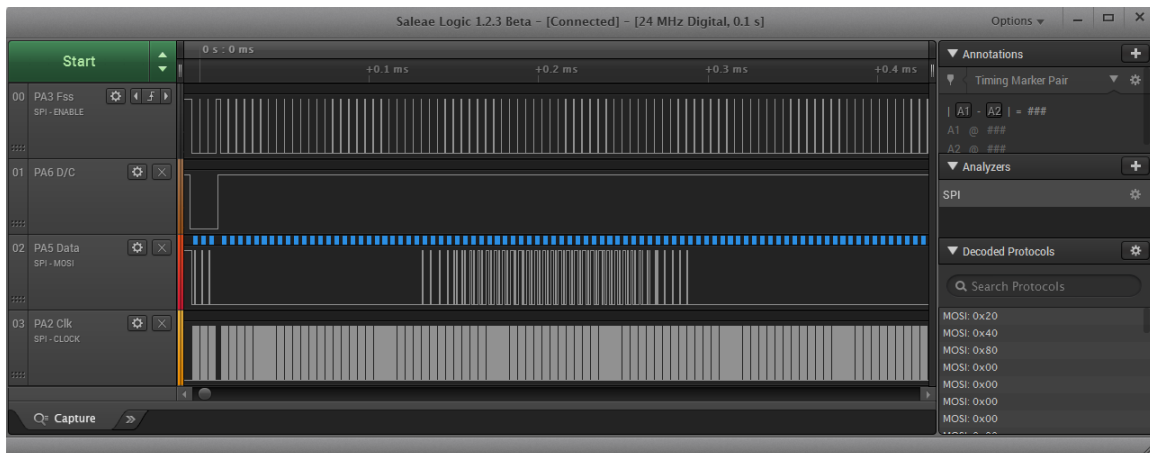
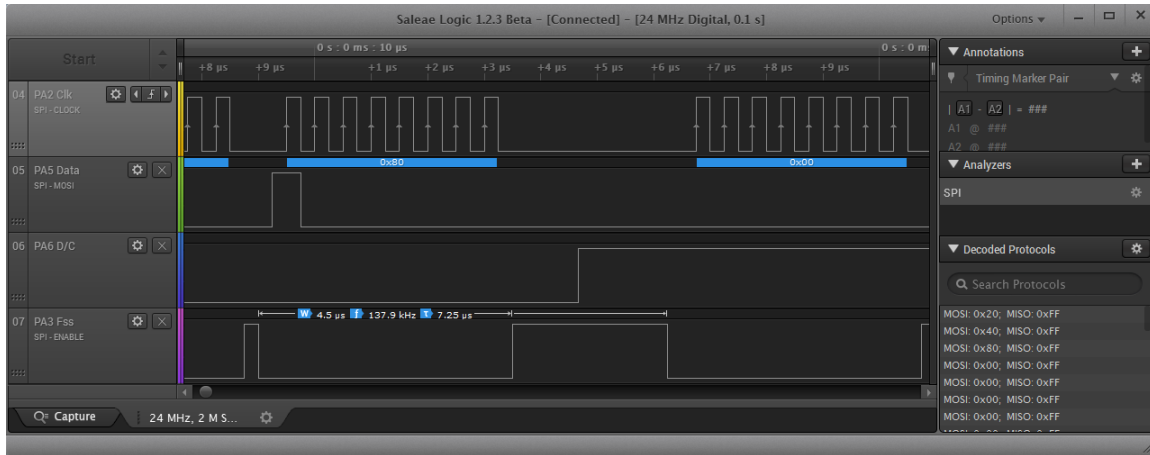

Figure 9.12: Zoomed out view of sampled signals.
Figure 9.13: Zoomed in view of sampled signals.
When the analyzer is done taking samples you will be presented with something similar to Figure 9.12. Rolling the middle mouse wheel zooms in and out of the recorded signals. Notice that when you zoom in, information about the signals become available (Figure 9.13). Any signal the cursor hovers over, the pulse width, frequency, and period are given. Also notice the blue labels in the “data” channel (SPI MOSI) are translated into an easy to read value.
2. For 100% max credit – Use the ASCII table provided in Figure 9.13 to display your name on row 2 of the LCD screen or use and modify NokiaTest-Class-main.s, Nokia5110-Class.s and StartupNokia.s files.